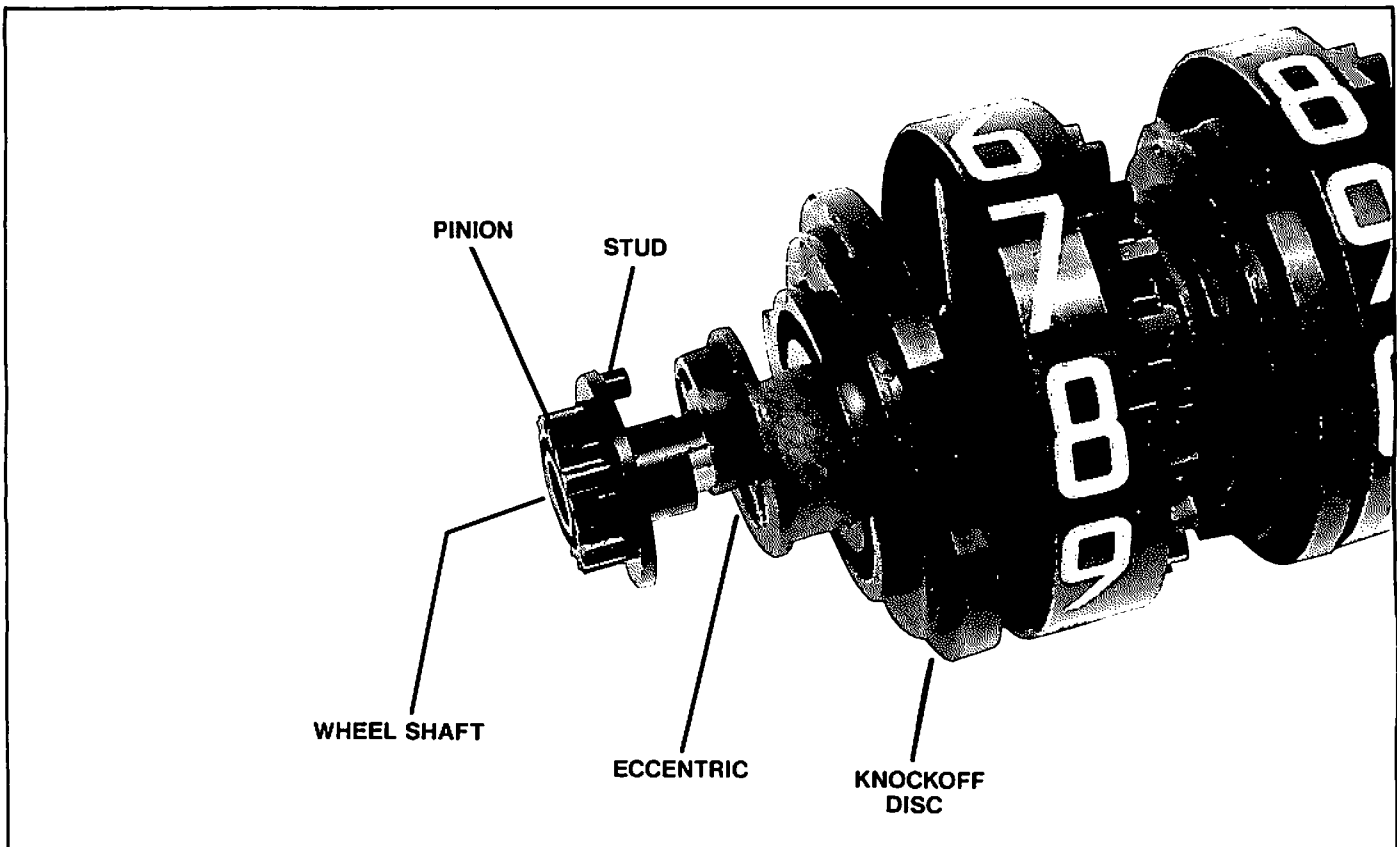

Figure 13. Character Wheel Shaft Group Parts Identification.
**Note:** When installing wheel shaft group in Preset, ensure that stud on wheel shaft pinion (Figure 13) is straight up and SET button is out in the "run" position.
7. Install large extension spring between tab on knockoff plate and strap that secures left side of wheel shaft (Figure 13).